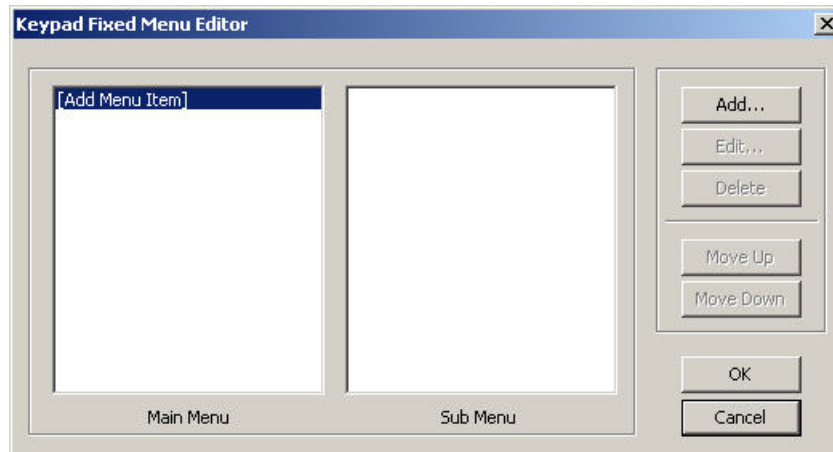

FIG. 215 Keypad Fixed Menu Editor dialog
2. Select **Keypad > Edit LCD Menu** (or click the Toolbar button) to open the *Keypad Fixed Menu Editor* dialog. Initially, the dialog indicates the **[Add Menu Item]** option, highlighted in the Main Menu window (FIG. 215).